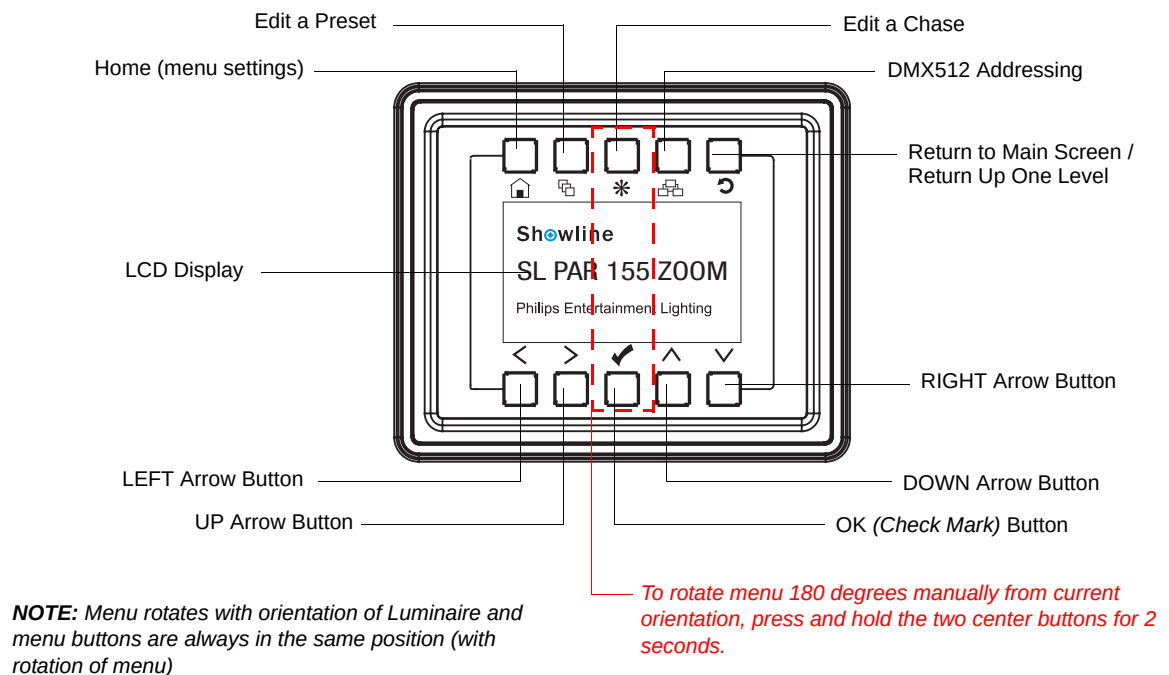

Figure 11: LCD Display and Menu System
- Step 2. Press the desired button (as shown in **Figure 11 on page 15**) to access menu categories.
- Step 5. Press CHECK MARK (OK) button to accept changes.